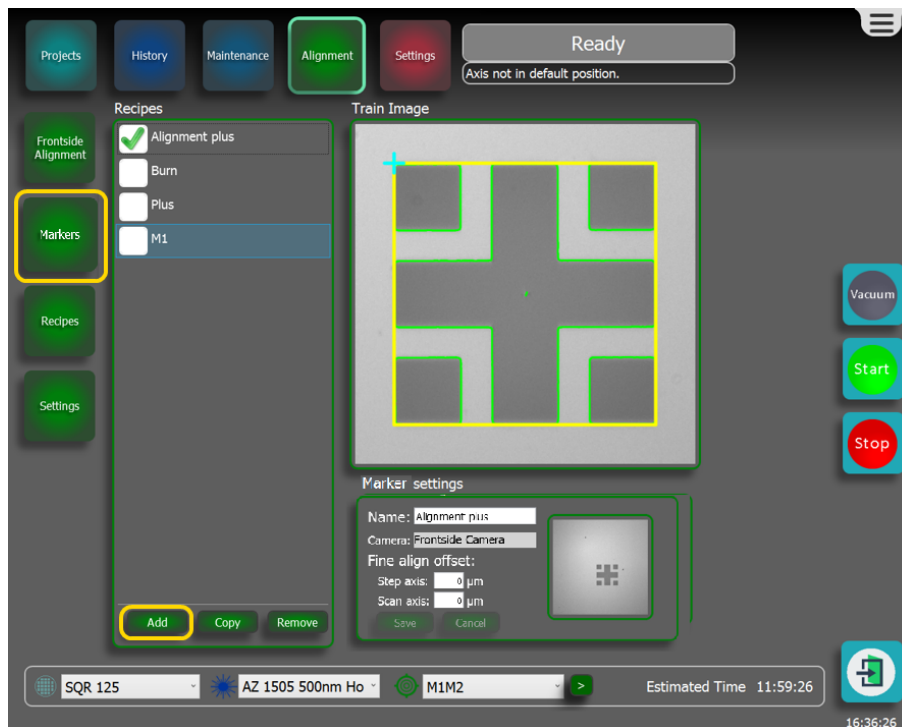

Figure 3-113 Marker window
1. To start the marker training, press **Markers** on the left side of the screen to open the marker window, see **Figure 3-113 on the facing page**.